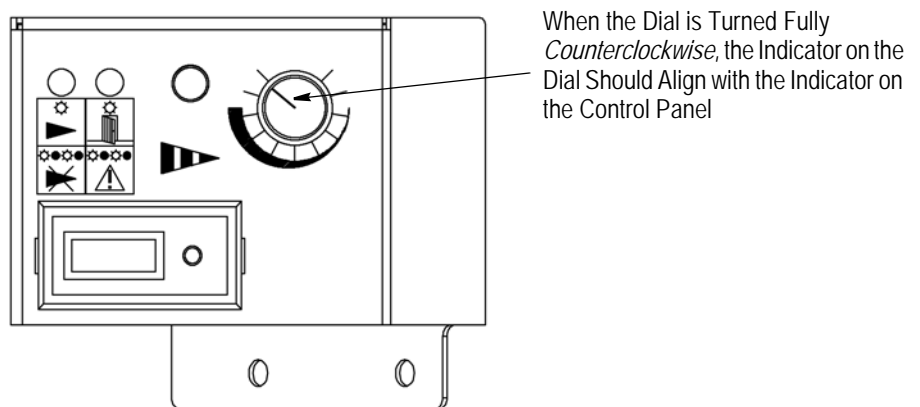

Figure 26
- e. Position and tighten the locking screw of the larger dial button on the shaft of the switch so that when the dial is rotated fully counterclockwise, the indicator on the dial is aligned with the indicator on the silk screen as shown in Figure 26.